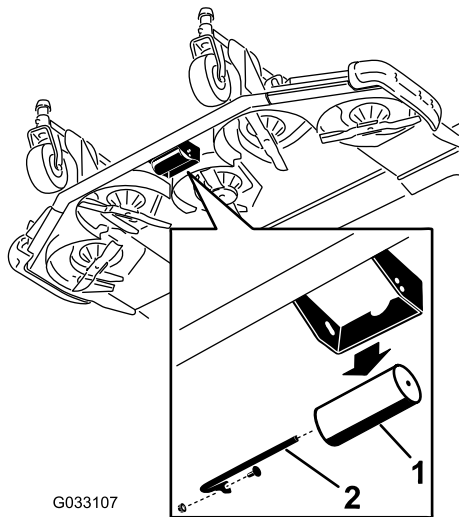

Figure 26
1. Remove the roller shaft, screw, and nut securing the roller to the deck bracket (Figure 26).